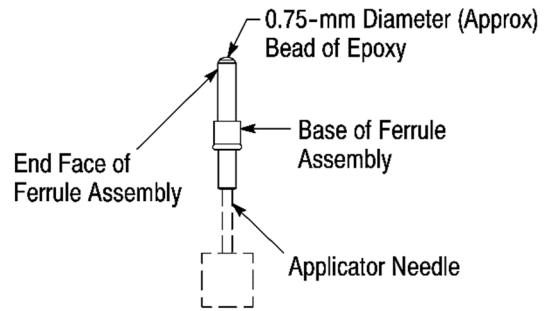

Figure 6
14. Hold the ferrule assembly vertically and insert the needle tip into the base of the ferrule assembly until it is against the back (end closest to the base) of the ferrule assembly. Refer to Figure 6.